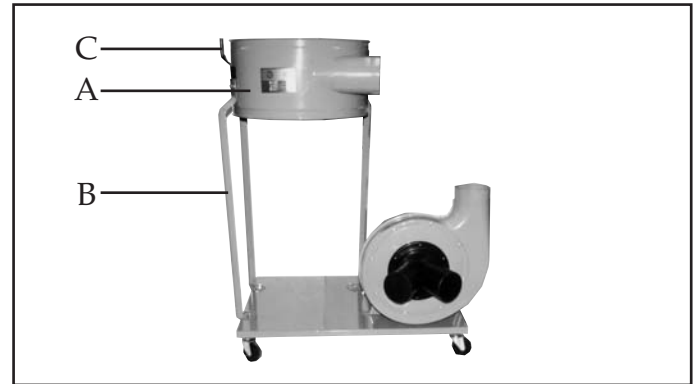

FIGURE 5
5. Install housing (A) to three support brackets (B) using 6 hex. bolts, 12 flat washers and 6 hex. nuts. Make sure the hose opening faces the fan housing. Before attaching the third support bracket, place hanger bracket (C) between the support bracket and the housing, as illustrated in Fig.5. Tighten all bracket nuts and bolts at this time.